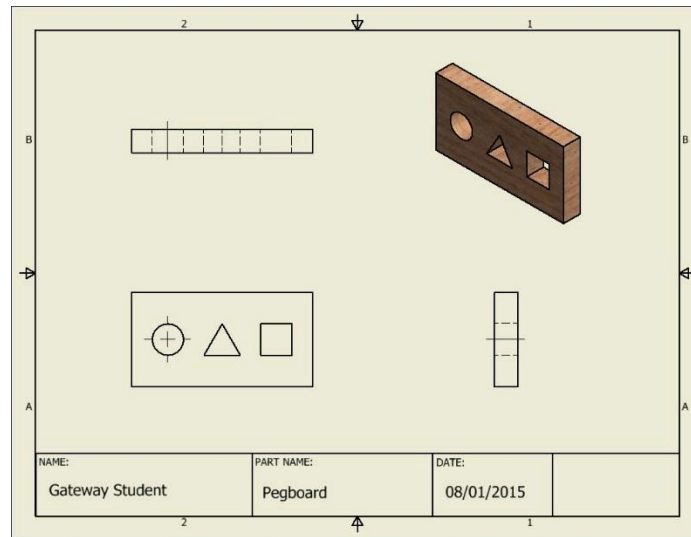

Figure 3
14. Your drawing should look similar to Figure 3.